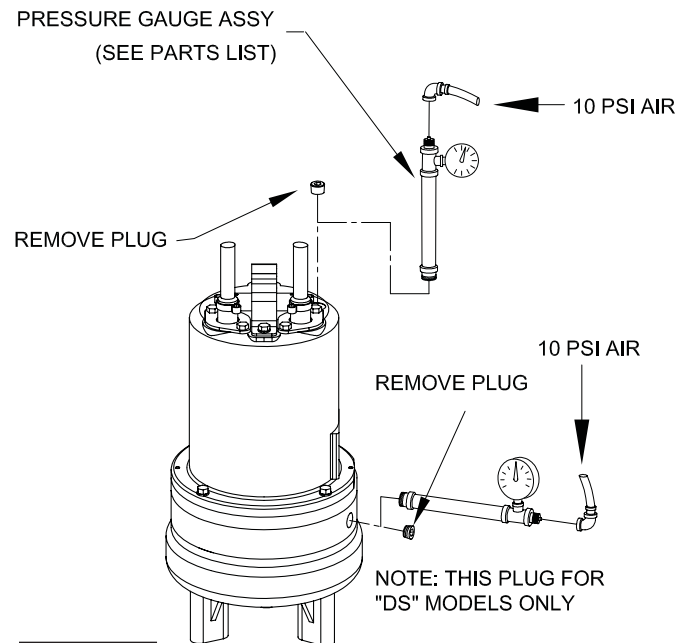

FIGURE 3
Pumps that have been disassembled, Motor Housing - If the pump has been disassembled, the oil should be drained before a pressure test, as described in section F-1.1. Remove pipe plug (39) from motor housing (6). Apply pipe sealant to pressure gauge assembly and tighten into hole (See Figure 3). Pressurize motor housing to 10 P.S.I. Use soap solution around the sealed areas and inspect joints for "air bubbles". If, after five minutes, the pressure is still holding constant, and no "bubbles" are observed, slowly bleed the pressure and remove the gauge assembly. Replace oil as described in section F-1.4. If the pressure does not hold, then the leak must be located and repaired.
Housing- The pressure test may be done with the oil at its normal level. Remove pipe plug (39) from motor housing (6). Apply pipe sealant to pressure gauge assembly and tighten into hole (see Figure 3). Pressurize motor housing to 10 P.S.I. Use soap solution around the sealed areas above the oil level and inspect joints for "air bubbles". For sealed areas below the oil level, leaks will seep oil. If, after five minutes, the pressure is still holding constant, and no "bubbles"/oil seepage is observed, slowly bleed the pressure and remove the gauge assembly. If the pressure does not hold, then the leak must be located and repaired.